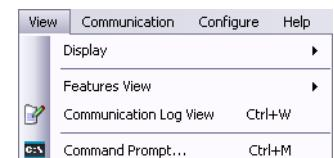

Figure 4-15 — Vertical display
Display — Allows you to select between horizontal (figure 4-5) and vertical (figure 4-15) display of the input and output selection window. These selections are also available via the tool bar's Horizontal button (H) and Vertical button (V).